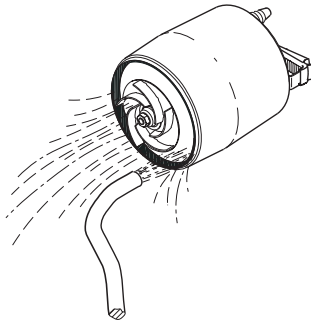

Fig. 13 How to flush the pump
4. Clean and flush the inside of the pump to remove possible impurities between motor and pump sleeve. Clean the impeller. See fig. 13.